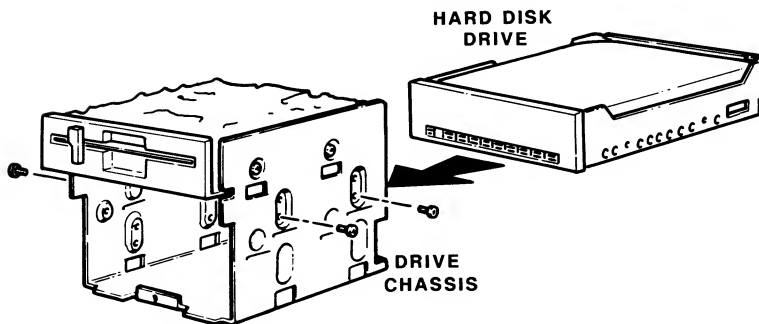

Figure 5-21. Installing the Hard Disk Drive
7. Refer to Figure 5-21 and slide the hard disk drive into position under the floppy disk (if present).